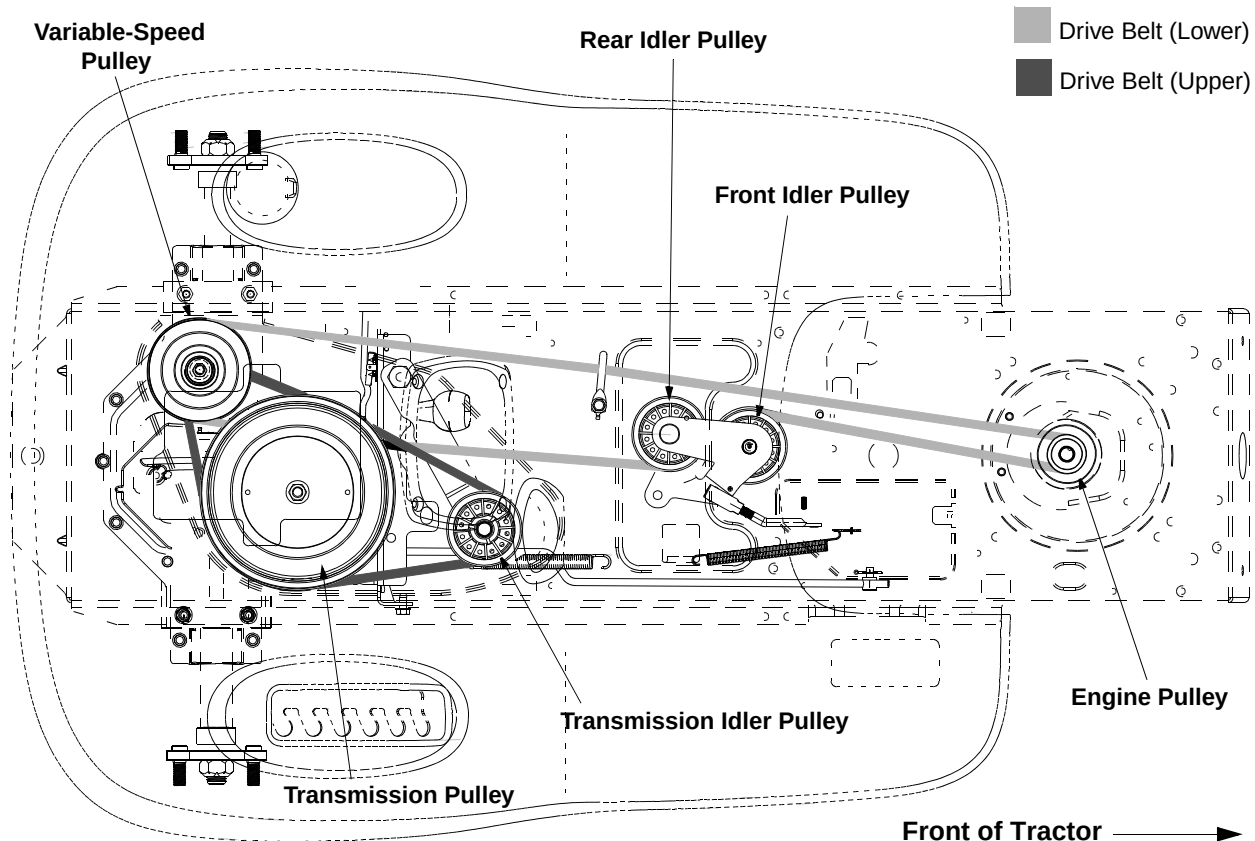

Figure 15
- Locate the fixed v-idler pulley found on the left underside of the frame. See Figure 15.
- Grasp the belt on both sides of the pulley and gently move it toward the left frame rail allowing it to unseat itself from the fixed v-idler. See Figure 15.
- Remove the hex bolt from the center of the electric PTO clutch. Gently lower it off the engine crankshaft, making sure not to lose any hardware. See Figure 15.
- Remove the drive belt by feeding it from front to rear, toward the hydrostatic transmission. See Figure 15.
- Reroute the new belt around the pulleys and belt keepers, if present, **exactly** as the old one was routed. Refer to Figure 15.